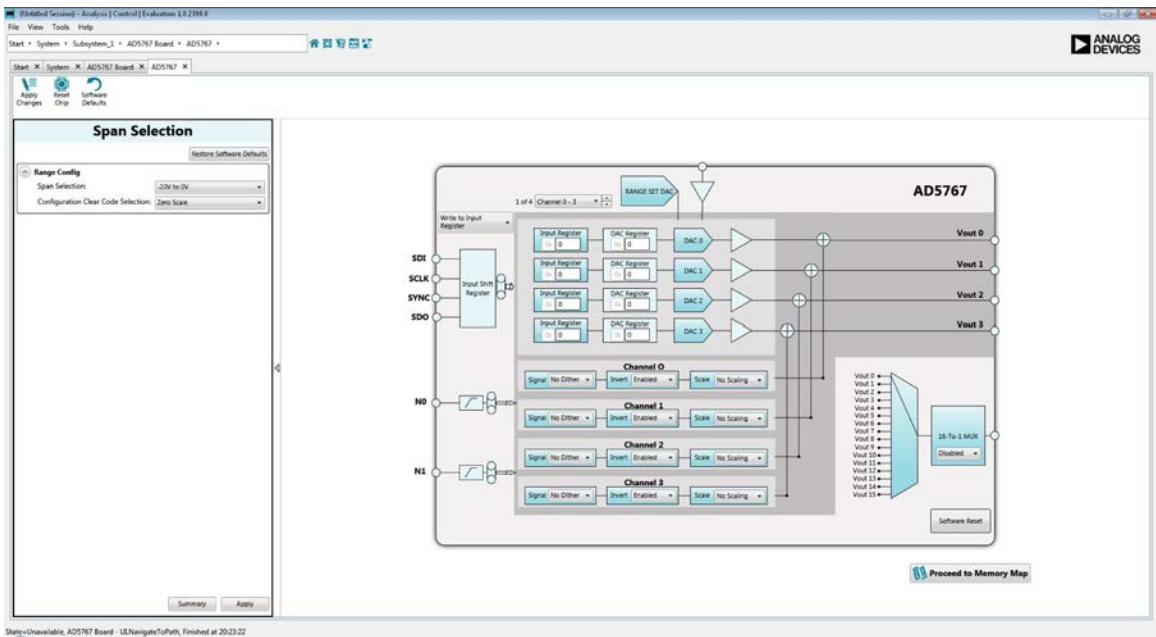

Figure 9. AD5767 Chip Tab
3. Double click the **AD5767** chip shown in Figure 8 to open the **AD5767** tab (see Figure 9). This tab displays the block diagram and allows the user to configure the DAC input registers and control registers. The hardware registers on the AD5767 are not altered until the **Apply Changes** button is clicked.